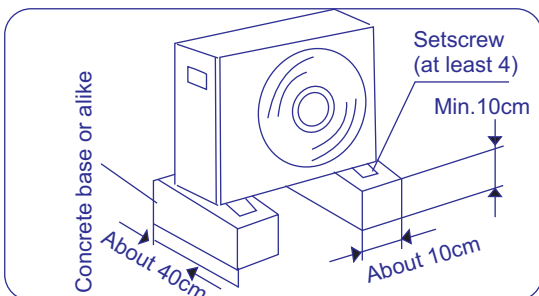

Fig.7.2
- Make a strong base(10X40cm² board made of concrete or alike). The appliance should be placed not less than 10 cm high to avoid being wet or corroded. Otherwise, it may cause damage to the appliance or reduce its life time. (Figure 7.2)